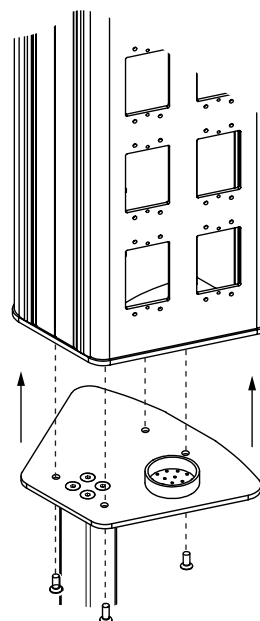

Figure 3. Attach the bottom plate
3. Attach the plate to the bottom of the carrier (Figure 3). Align the four corner holes with the holes at the bottom of the carrier. Use an impact driver with a #3 Phillip's head bit to screw the plate to the carrier with four M8 x 20 countersunk screws.